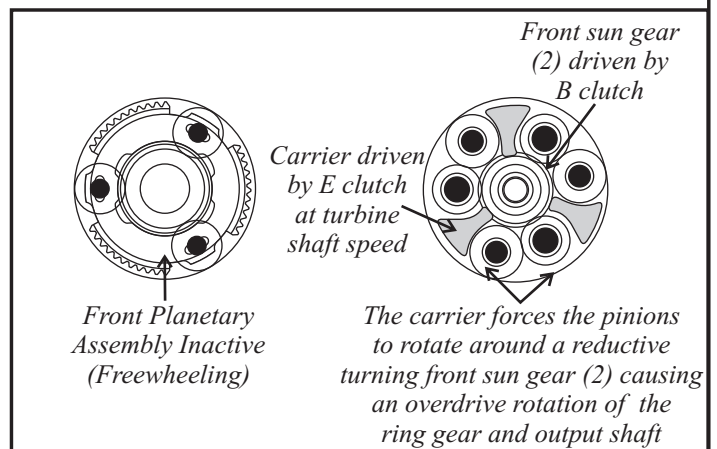

Figure 12
**Powerflow in 5th gear:** The A clutch is released and the B clutch is applied which drives the larger front (#2) sun gear in the double planetary output carrier. The E clutch is still applied driving the double planetary output carrier at turbine shaft speed. The reaction of the long pinions being forced to rotate around a reductive spinning sun gear (#2) causes the internal ring gear and output shaft to rotate in an approximate overdrive ratio of 0.867:1 (Figure 12).